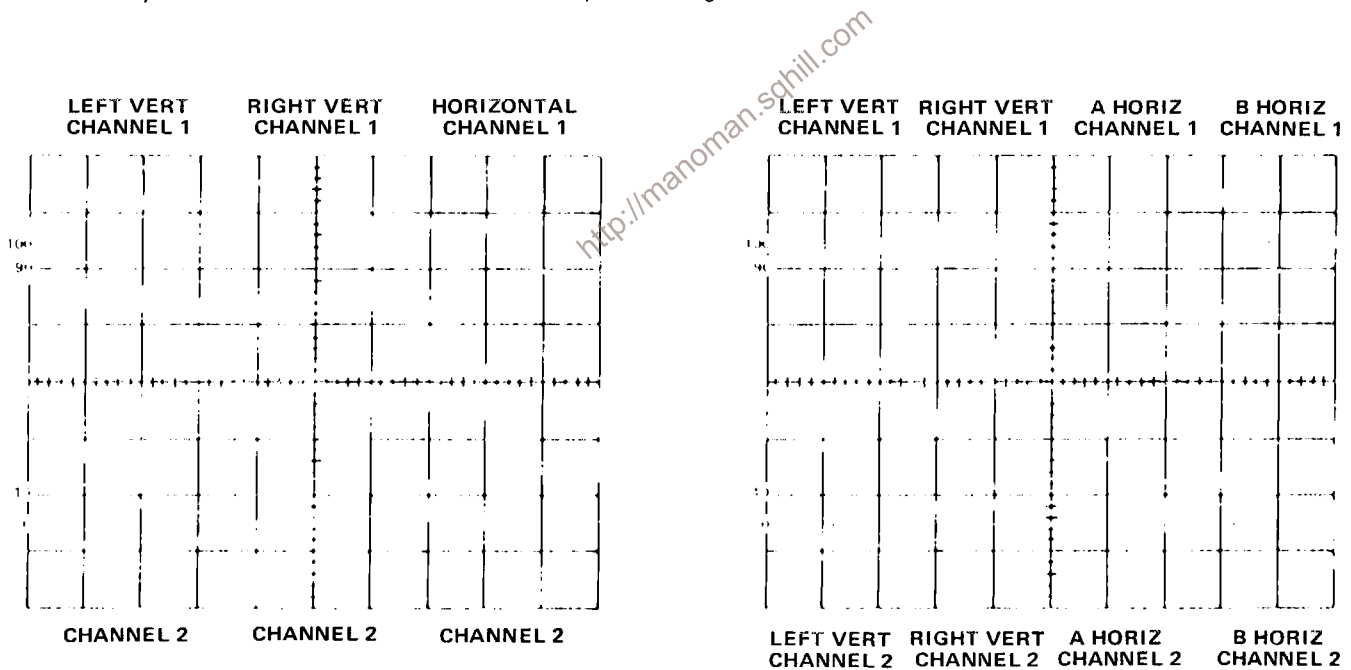
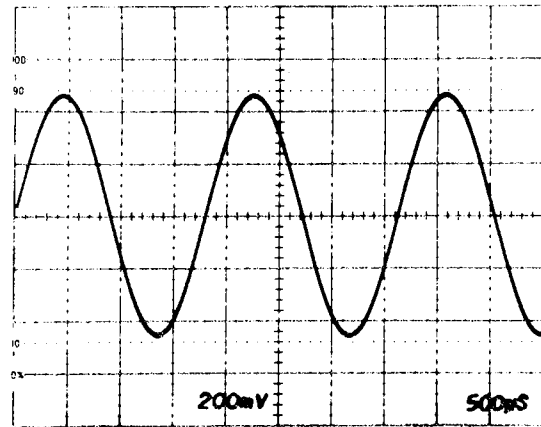

Figure 3-24. Location of readout words on the crt identifying the originating plug-in unit and channel (one complete frame shown).
Figure 3-26. Typical readout display where only channel 2 of the Right Vertical and Horizontal units is displayed.
Figure 3-24 shows the position of each word in a complete frame.
Up to eight words (six words in three compartment mainframes) of readout information can be displayed on the crt. The position of each word is fixed and is directly related to the plug-in unit from which it originated. Figure 3-24 shows the area of the graticule where the readout from each plug-in unit is displayed. Notice that Channel 1 of each plug-in unit is displayed within the top division of the crt and Channel 2 is displayed directly below within the bottom division. Figure 3-26 shows a typical display where only Channel 2 of the Right Vertical and the Horizontal units is selected for display.
The Format Generator stage provides the output signals to the vertical and horizontal deflection systems of the instrument to produce the character display. The binary Channel Address Code from the Channel Counter stage is connected to this stage, so that the display from each channel is positioned to the area of the crt associated with the plug-in and channel originating the word (see Figure 3-24). The positioning current or decimal point location current generated by the Decimal Point Logic and Character Position Counter stage is added to the Horizontal (X) signal at the input to the Format Generator stage to provide horizontal positioning of the characters within each word. The X- and Y-Readout signals are connected to the Horizontal Amplifier and Vertical Amplifier through the X- and Y-Buffer stages.